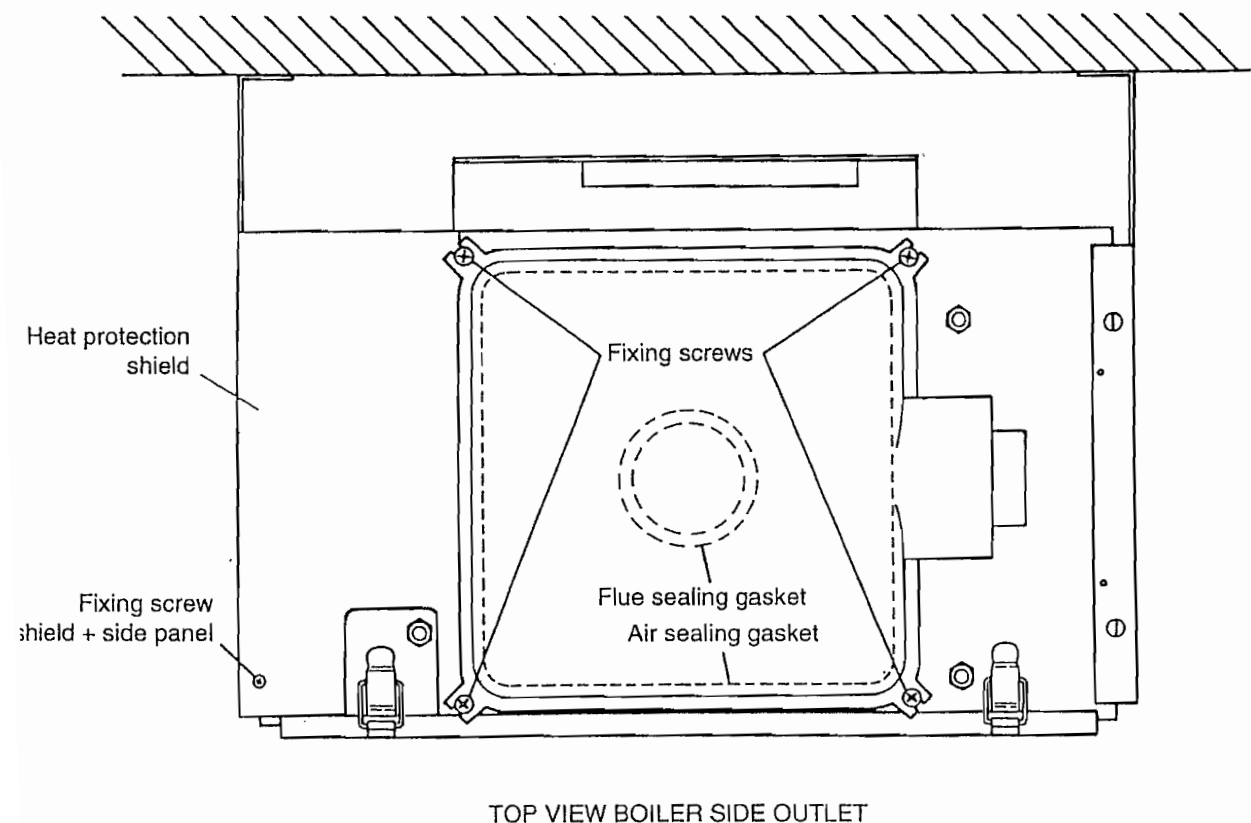

Fig. 14
- 5.1 The boiler is supplied suitable for the right hand side flue. Remove the turret (fig. 14), four screws and place to one side.